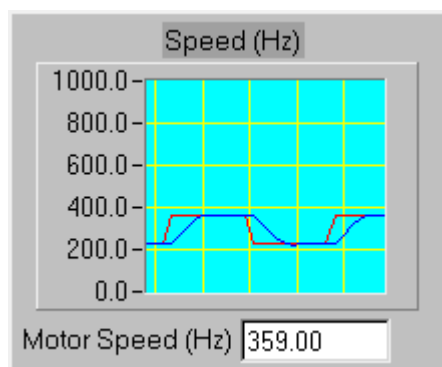

Fig. 8 Display of Speed Command and Motor Speed Response
Step 3: Click on the “Tune/Stop” switch to “Tune” position. Click on the “Run/Stop” switch to “Run” position. The motor should start running. The “Speed (Hz)” display should display both traces of the speed command (red line) and motor speed (blue line). The “Run” indicating LED should be on. controller DC bus voltage and current should also be displayed. Observe the command and motor response. Fig. 8 shows the display of the speed command and motor speed response of the tuning process.